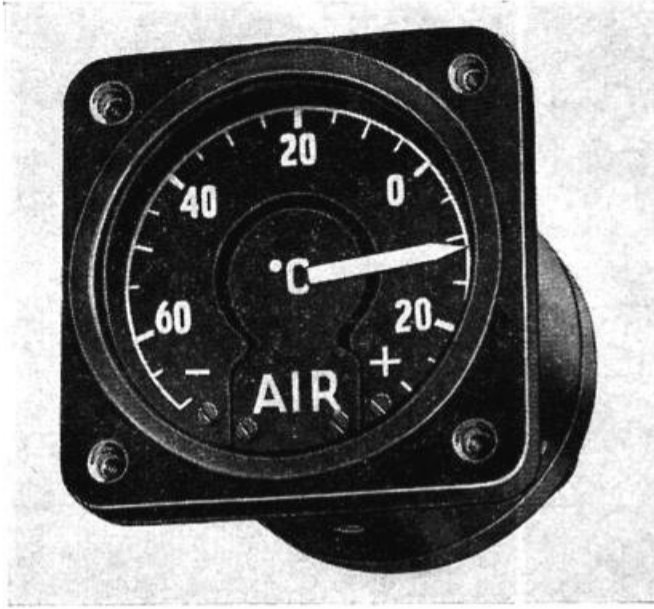

Fig. 1. Typical indicator
1. The information contained within this chapter deals with basic Type S63 temperature indicators. Each instrument (*fig. 1*) has a manufacturer's code number which is made up of three parts. A typical code is S63.4.454 where S63 is the model number, .4 is the "form" (i.e. type of case etc.) and .454, the suffix number, represents the application to which the instrument is adapted.